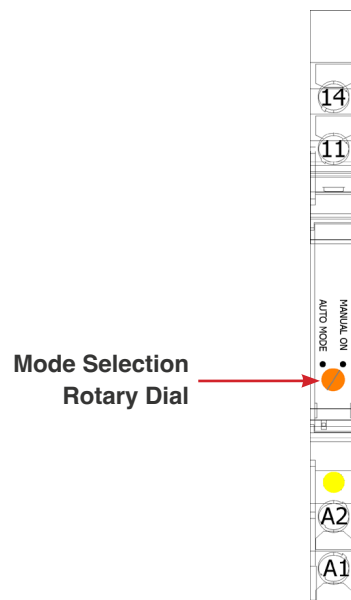

Fig. 4.5 - 1 - Rotary dial for manual testing of functions
1. Open the electrical enclosure and locate the orange rotary dial on CR 1-20 (Fig. 4.5 - 1).